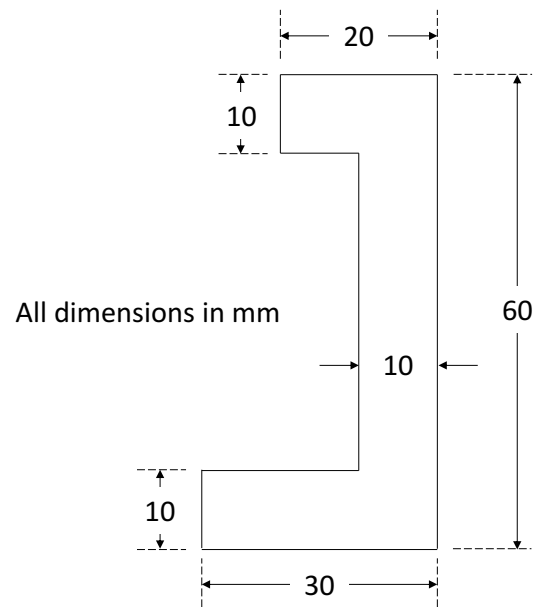

Fig Q2
2. Calculate (a) the Principal 2nd Moments of Area and (b) the directions of the Principal Axes for the section shown in Figure Q2.